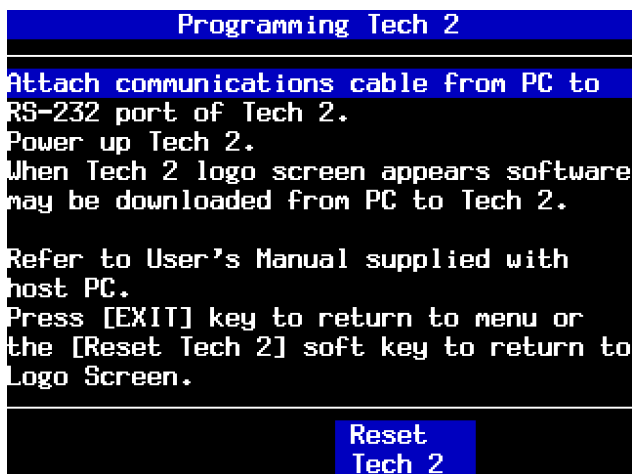

FIGURE 8-9. Programming Tech 2 Screen
After you select F5: Programming TECH 2, a Programming Tech 2 screen appears (Figure 8-9) with instructions for downloading from a PC to the Tech 2 scan tool.
- **F3: Programming Tech 2** provides instructions for downloading from a PC to the Tech 2 scan tool. This option duplicates Tool Options Menu function F5: Programming TECH 2 (see Figure 8-2 and Figure 8-9).